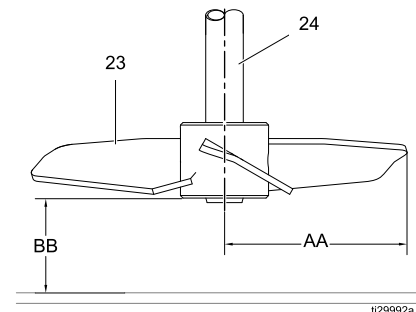

Figure 3 Impeller Installation
- a. For flange mount: See Models 25C454 and 25C463, page 14 for parts identification. Place gasket (20) and bearing housing/flange assembly (A) on tank cover. Install flat washers, mounting bolts, and nuts (not provided). Tighten securely.
- b. For quick-clamp flange mount: See Models 25C453, 25C575, 25C464, 25C576, page 16 for parts identification. Place bearing housing/flange assembly (A) on top of quick-clamp gasket (not provided) and existing quick-clamp flange on tank. Attach with clamp (not provided) and tighten securely.
- c. For pressure tank: See Models 25C462, 25C470, 25C471, 25C465, 25C472, 25C473, page 18 for parts identification. Place gasket (21) and bearing housing/flange assembly (A) on pressure tank cover. Install and secure with lock washer (32) and nut (22). Tighten securely to prevent assembly from rotating.
2. Install the retaining ring (6) in the machined slot in the agitator shaft (24).
4. Slide the impeller (23) (see Figure 3) onto the shaft (24) so the blade is pushing material down with the blade turning clockwise when viewed from above. Shaft can be moved up and down in the bearing housing to install the impeller.
5. Position the impeller along the shaft as required: The distance from the tank bottom to the lowest impeller blade (BB) should be 1/2 to 1-1/2 times the impeller blade diameter (blade diameter is determined by measuring the distance from the tip of the impeller to the shaft center (AA) and multiplying by two).